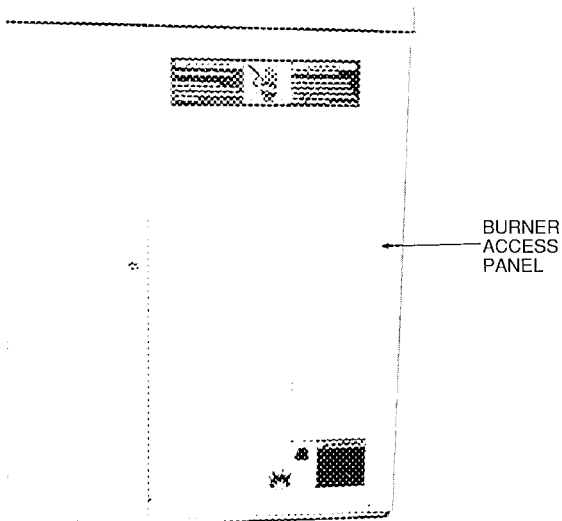

Fig. 25 — Burner Access Panel
1. Remove burner access panel. (See Fig. 25.)
3. Remove burner access panel. (See Fig. 25.)